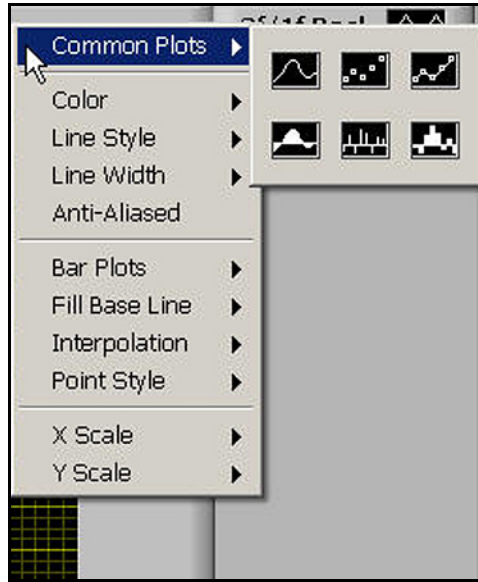

Figure 69: Options for Graphing Data
2. If you right-click on any series of data within the graph, or you click on the current parameter being-trended item in the legend, you will see a variety of options for graphing data (see *Figure 69* below). You can change to a variety of common plots and adjust color, line style, and line width. For some data sets with lots of finite points, you may want to click Anti-Aliased which will smooth the plot line. You can also change bar plots, fill base line, interpolation and point style. X-Scale adjusts the x-scale. Y-Scale adjusts the y-scale and enables the secondary y-axis.